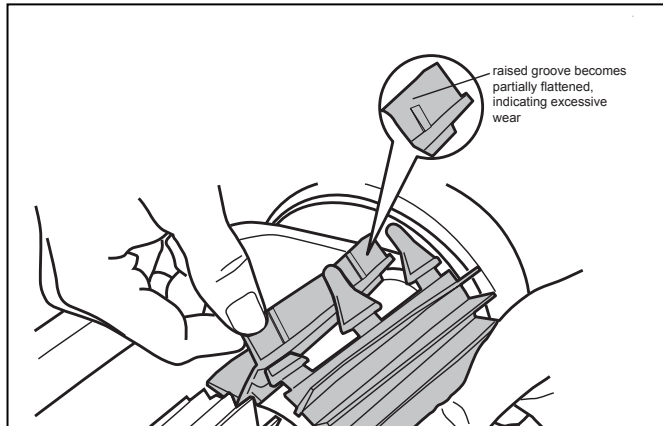

Figure 19. Worn Brush Indicator
The cleaner is fitted with a TPE brush in front. There are "wear" indicators (Figure 19) on the brush. To maintain cleaner performance at its best, replace the brush as soon as the wear indicator has been reached. Zodiac recommends that you replace the brushes every two (2) years.